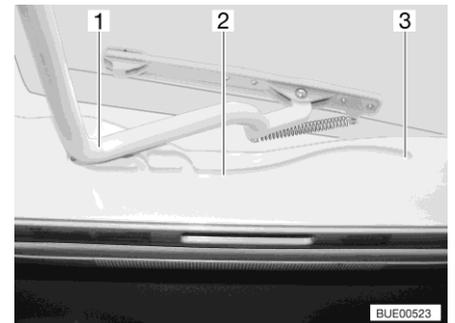

Fig. 29 Guide (hinged skylight)
- Pull the bar (Fig. 29,1) in the guides (Fig. 29,2) to the rearmost position (Fig. 29,3).
- Use both hands to push the bar (Fig. 29,1) slightly upwards.
- Pull the bar in the guides (Fig. 29,2) to the desired position.